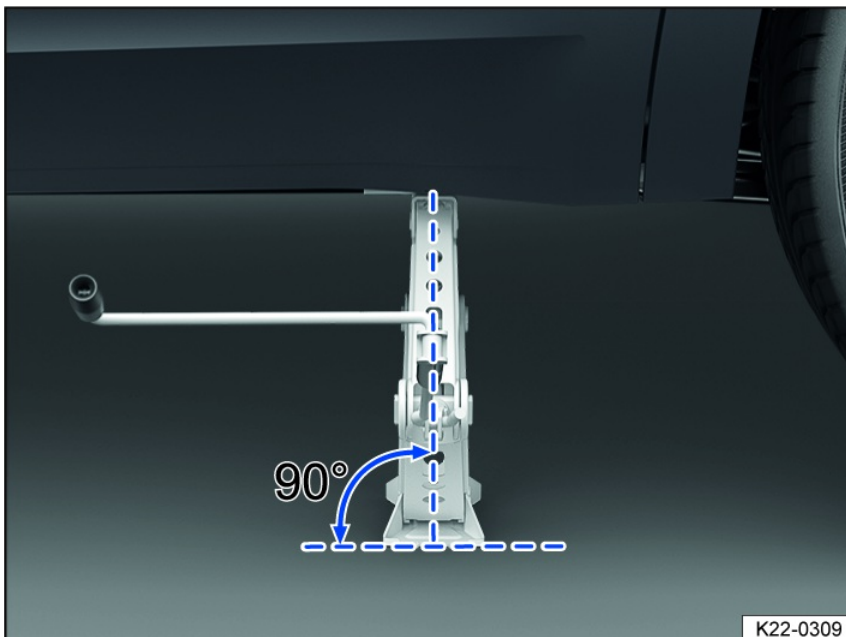
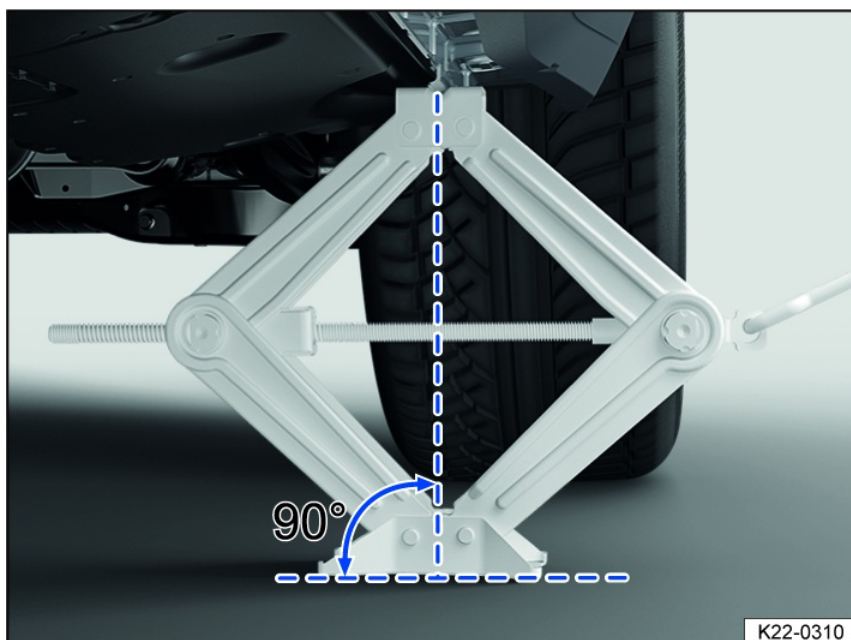

Fig. 207 Correct jack setup.
Fig. 208 Jack is positioned on the left side of the vehicle at the rear.
12. Make sure the entire base of the jack is seated securely on the ground and that the base of the jack is located exactly directly below the lift point fig. 207 and fig. 208.
13. Straighten the jack and continue cranking the claw on the top of the jack upward until the claw is positioned on the jacking point under the vehicle fig. 208.
- Only place the vehicle jack at the lift points described. The bracket on the vehicle jack must firmly grip the sill fig. 208.